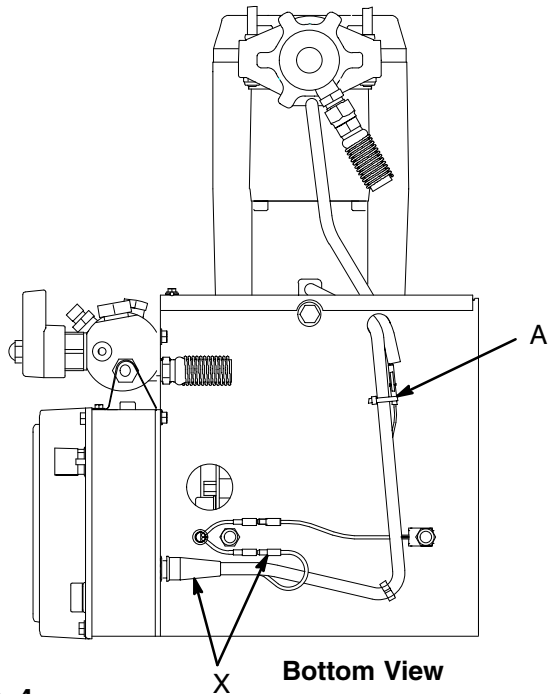

Fig. 4 8699A
- Fig. 4. Disconnect gallon counter sensor at (A). **Cut tie wrap holding gallon counting sensor wire to clutch wire.**
- Liberal apply bearing grease (supplied with replacement gear cluster) to gear cluster (18) and to areas called out by note 3. Use full 0.62 pint (0.29 liter) of grease for GMax 3900 and 0.68 pint (0.32 liter) of grease for GMax 5900.
- Place bronze colored washer (20g) on shaft protruding from large shaft of drive housing (20). Place silver colored washer (20h) on pinion housing. Align gears and push new drive housing straight onto pinion housing and locating pins (B).
- Install four screws (10) and lockwashers (17) from pinion housing (19).
- Install two screws (81) and lockwashers (17).
- Fig. 4. Connect gallon counter sensor at (A). **Secure gallon counting sensor wire to clutch wire with a tie wrap.**